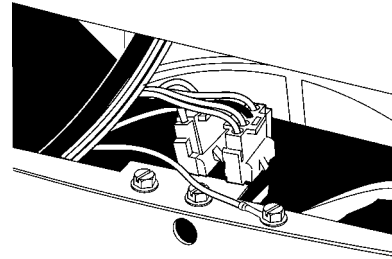

Fig. 3-27
4. Disconnect the drive motor wiring harness from the connector block attached to the front bottom frame rail. (Fig. 3-27)
6. Remove the two (2) screws securing the drive motor mounting bracket to the motor plate.